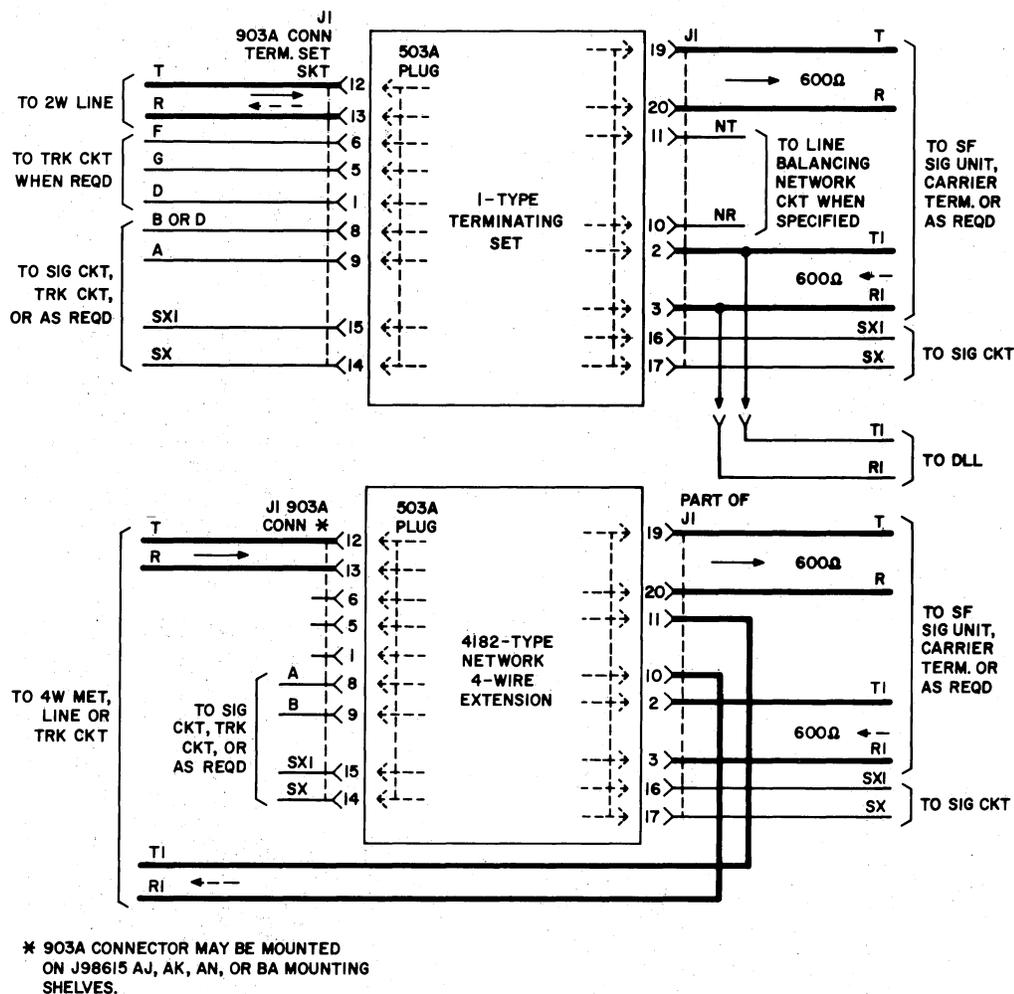

Fig. 1—Terminal Correspondence, I-Type Terminating Set and 4182-Type Network
**15.01** The 4182-type networks are a series of plug-in 4-wire extension networks which are physically interchangeable with 1-type terminating sets (Fig. 1). The 4182-type networks are designed to be plugged directly into the mating connector socket of the equipment mounting shelf. Regardless of the choice of plug-in units (1-type terminating sets, 4182-type networks, or 437A plug) the same physical equipment mountings will be suitable for either 2-wire or 4-wire extensions.